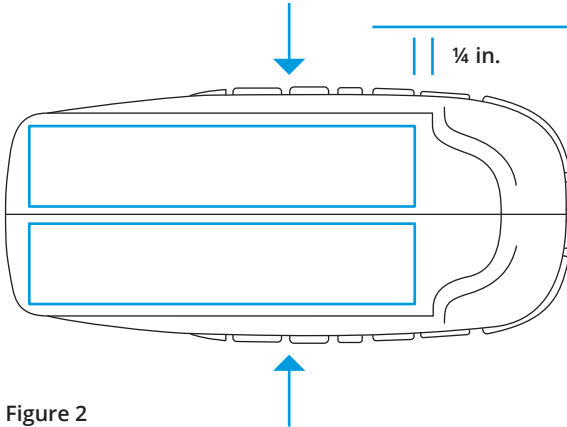

Figure 2
1. Apply a thin film of cyanoacrylate super glue to the bonding surface of the Rubber Sole. Adhesive should be  $\frac{1}{4}$  in. away from the edge of the toe recesses, see Figure 2.
3. Squeeze the two halves of the Rubber Sole together in the direction shown by the arrows in Figure 2.